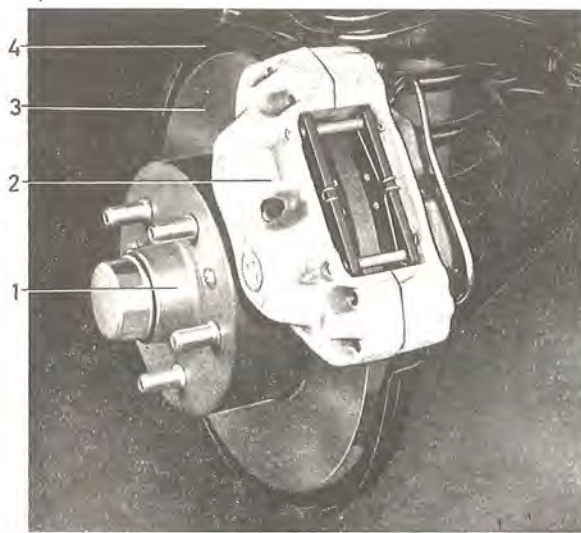

Fig. 5-7. Brake components, front wheel
Fig. 5-7 shows how the brake components are located at the front wheels. The disc (3) is of cast iron and is attached to the wheel hub with which it rotates. The cover plate (4) protects the disc from dirt.